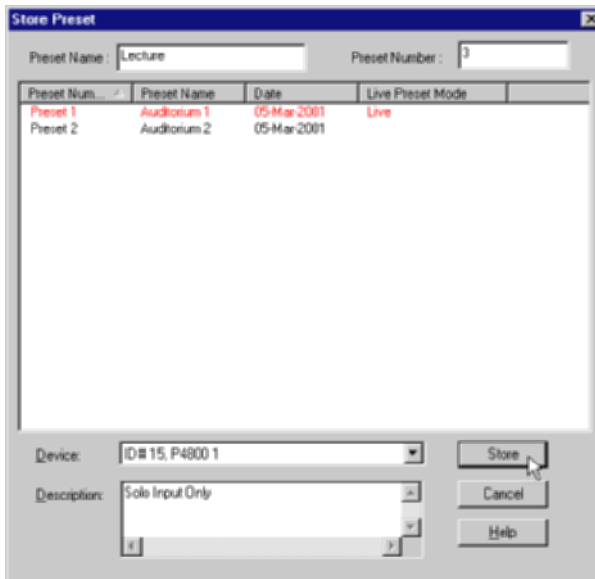

Figure 18 – Store Preset Dialog
1. The Store Preset dialog will appear, as pictured on the left in figure 18.